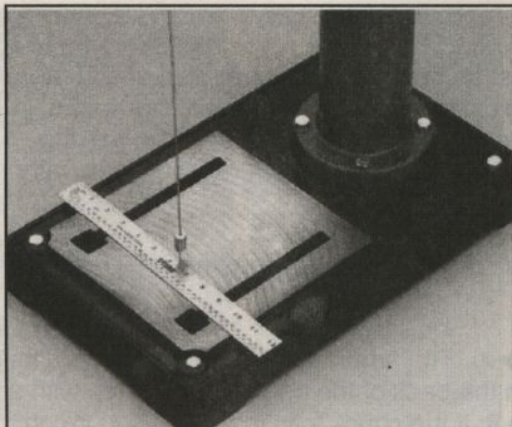

Figure 6
2. Position the headstock directly over the base by using a plumb bob. Use a measuring tape or ruler across the drill press base to find its center. Suspend the plumb line from the center of the headstock label and lower the bob until it is near the tape/ruler as shown in **Figure 6**. Adjust headstock from side to side until the tip is equidistant from both the left and right sides.